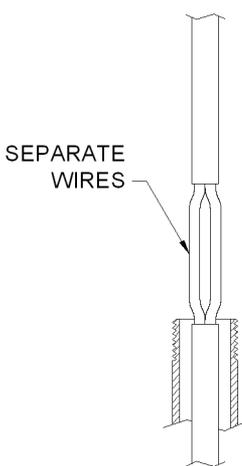

Figure 7
4. Separate the high voltage wires as shown in **Figure 7**.
6. Install the packing fiber generally following the “Y” sealing fitting manufactures’ instructions while maintaining the high voltage wire separation. Refer to **Figures 7** and 8.